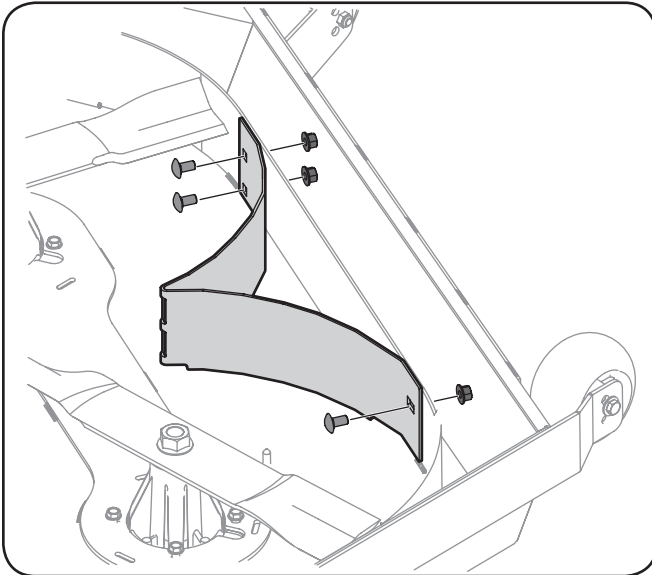

Figure 1-6
3. Install the left baffle using three 3/4" carriage bolts (and three flange nuts) to secure it. See Figure 1-6.